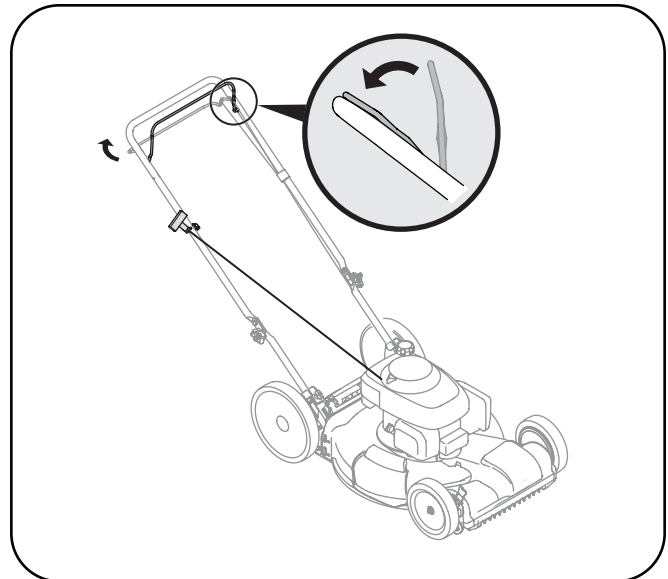

Figure 5-1
1. Once the engine is running and while continuing to hold the blade control down, squeeze the drive control against the upper handle to propel mower. See Fig. 5-1.